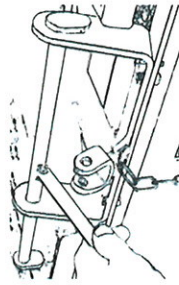

Fig. 12
2. Move the handle to the left to remove the right skid or to the right to remove the left skid (fig 12).